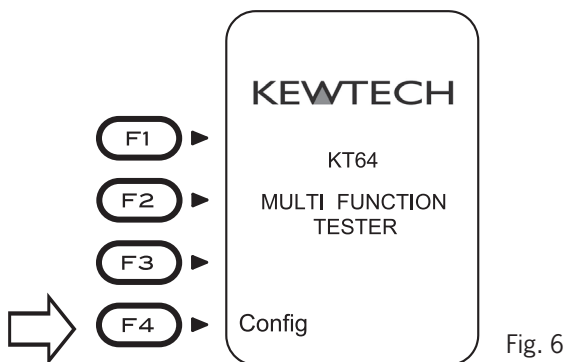

Fig. 6
1. Press the Config Button (F4) when powering on KT64DL. (Fig.6)